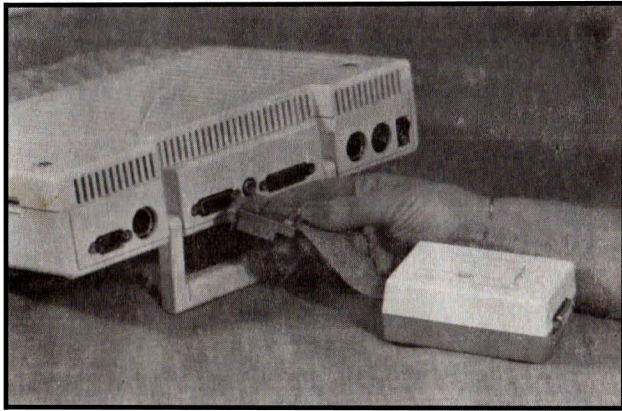

Figure 2. Installation of the RGB Interface to the Apple II/c.
3. Attach the cable on the RGB interface box to the Apple //c computer, as shown in Figure 2.